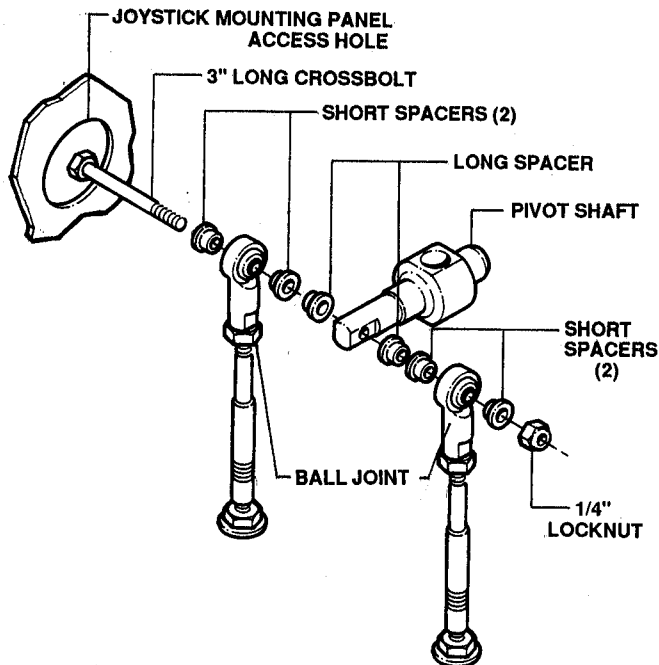

FIGURE 4.7
B. Remove lock nut, cross bolt and spacers. See Figure 4.7.